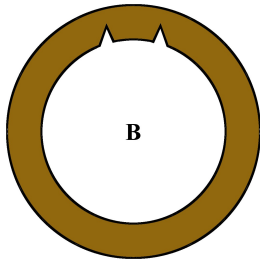

Figure 2
- **Step 3** Modify the one remaining CR-5055 ring as shown in Fig. 2 with a pair of "V" notches.